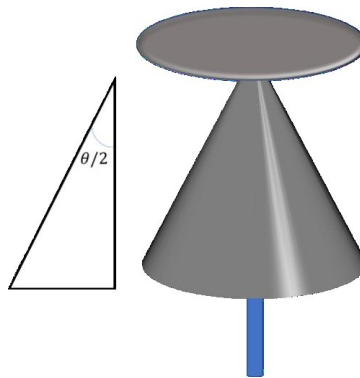

Figure 8 Disccone antenna flare angle
There is only one disc with 80 mm diameter in this experiment. After you calculate antenna dimensions, you need to turn them into Anten'it resolution. Then, you can start iterating and reach the target design frequency. You can either use the formulas or start directly with a flare angle and iterate. We recommend to take the flare angle at least $22,5^\circ$ ($\theta/2$ in Figure 8) and iterate your design via a network analyzer. You can try different antenna lengths and flare angles.
8. Calculate the discone antenna size the lowest frequency of 1400 MHz. We recommend you to have the flare angle as at least $22,5^\circ$ ($\theta/2$ in Figure 8). Make your design with a starting point. You can either use the formulas or select a flare angle and iterate your design.